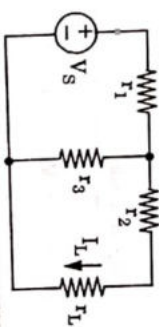
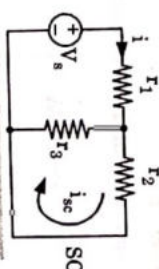

Fig. 1.18.1. A simple DC network.
Fig. 1.18.2. Finding of i_{sc}
1. In order to find the current through r_L (Fig. 1.18.1), replace r_L by short circuit [Fig. 1.18.2].